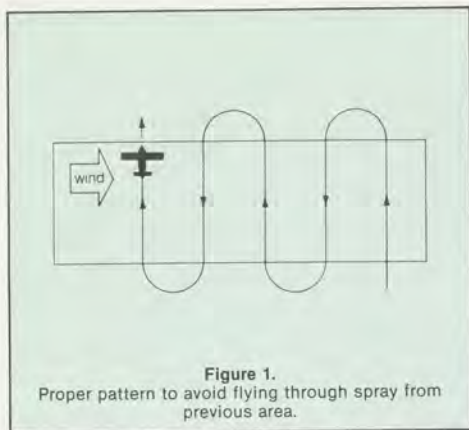

Figure 1.
3. Plan application runs so as not to fly through material sprayed on preceding passes. To do this requires flying crosswind with each successive pass moving upwind (figure 1).